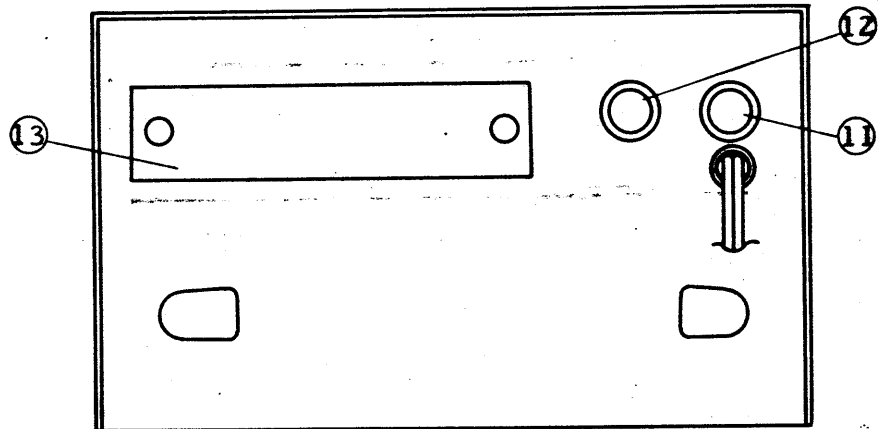

Fig. 2 Rear Panel
3.2 Explanation of rear panel (See Fig. 2.)
- (11) Input fuse                              Inserted in the primary of the power transformer to avoid possible subsequent faults during a Model PAC35-3 trouble. Time lag type 4A.
- (12) Output fuse                             Inserted on the output side to prevent surge current during a Model PAC35-3 trouble from flowing through the equipment connected, and from causing resultant damage. 3A Fuse
- (13) Rear terminal plate                    Output terminals, sampling terminals, remote control terminals and one-control parallel operation terminals are provided on it.